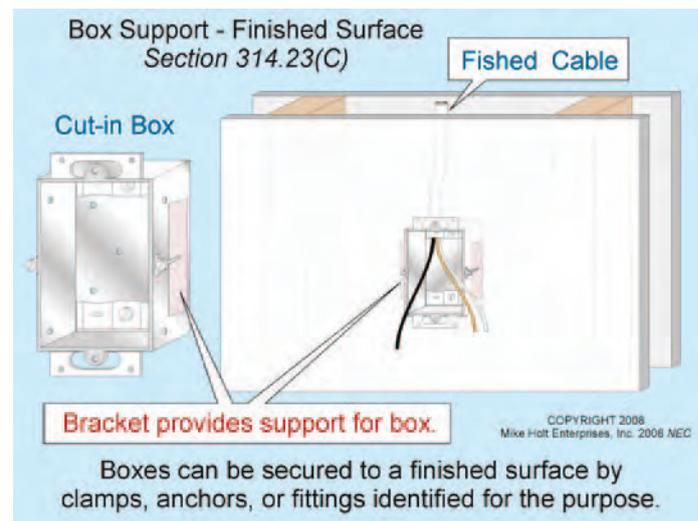

Figure 314-13
(1) Nails and Screws. Nails or screws can be used to fasten boxes, provided the exposed threads of screws are protected to prevent abrasion of conductor insulation.
(2) Braces. Metal braces no less than 0.020 in. thick and wood braces not less than a nominal 1 x 2 in. can support a box.
(C) Finished Surface Support. Boxes can be secured to a finished surface (drywall or plaster walls or ceilings) by clamps, anchors, or fittings identified for the purpose. **Figure 314-13**